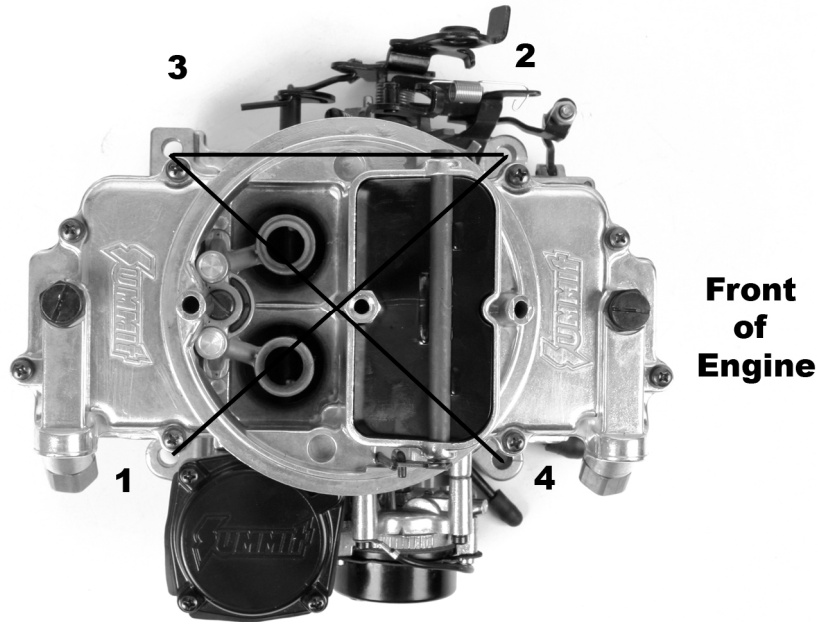

Figure 1—Carburetor torque sequence
3. Place the carburetor on top of the flange gasket on the manifold. Install the hold down nuts and snug down progressively in a "crisscross" pattern (**60-80 in./lbs.**), as shown in Figure 1.